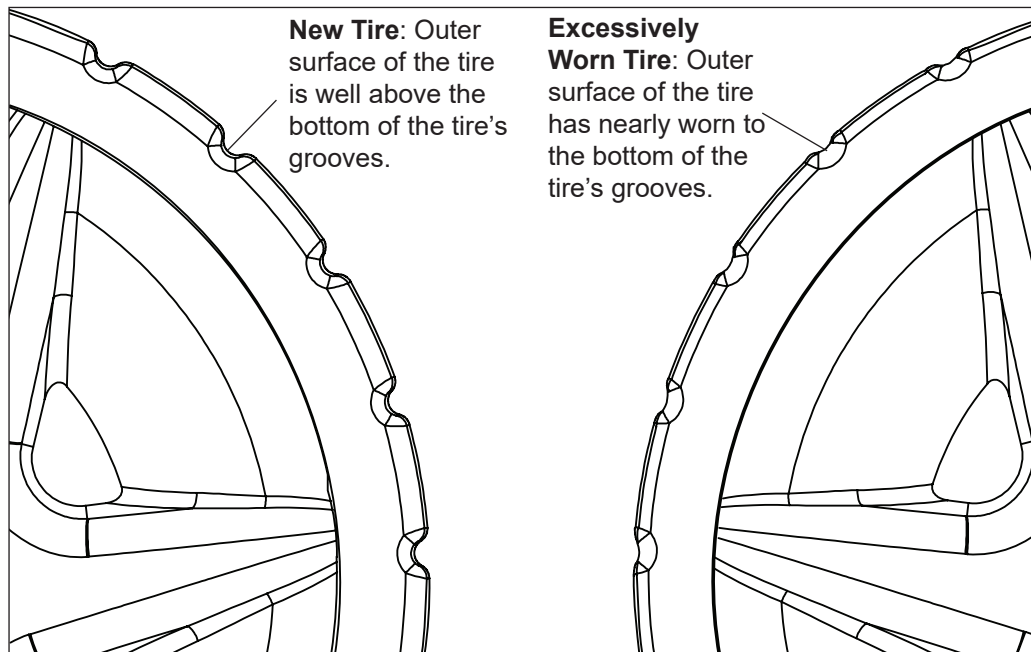

Figure 15: Tire Wear Comparison
- The tires are not excessively worn. See **Figure 15** on the next page.
After prolonged use it may become necessary to replace the 'Lil Rebel™ Aboveground Suction-Side Pool Cleaner's rubber tires. When the tire surface has worn into the tire's grooves the tire is in need of replacement. See **Figure 15**.